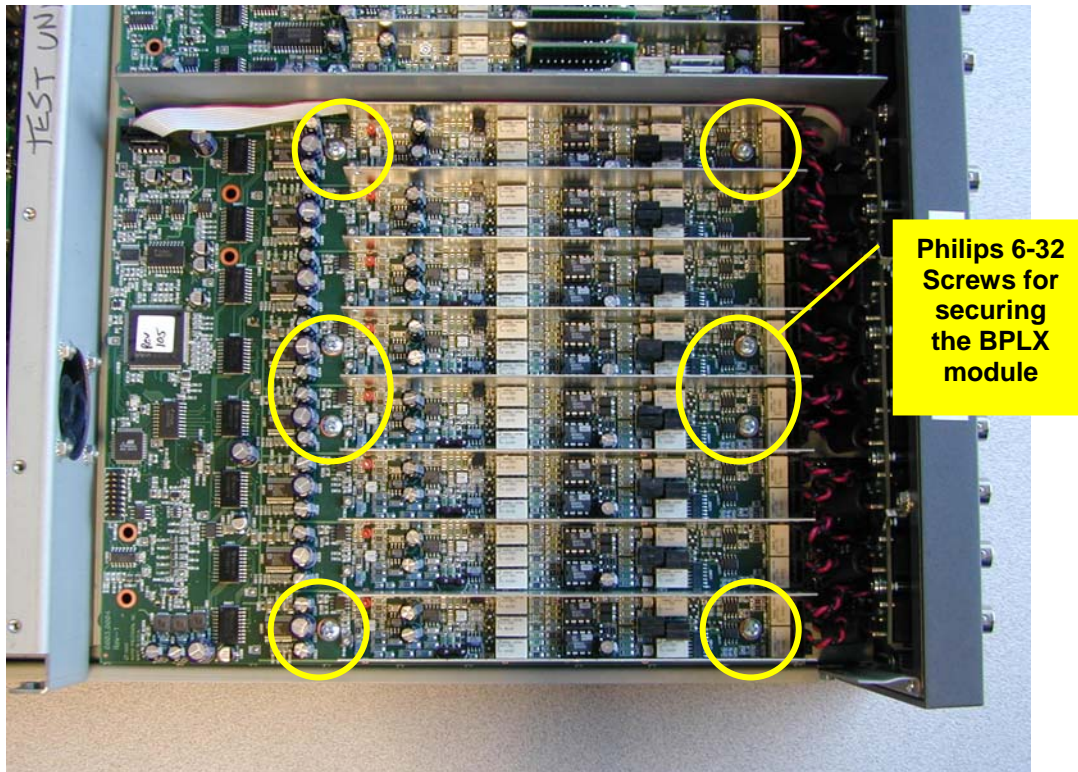

Figure 4 APX585 BPLX Module
16. Use a Philips # 2 Screw driver to remove the eight 6-32 Philips screws that secure the BPLX module to the APX-585 main chassis plate. Save the 6-32 Philips screws for re-installation of the new BPLX module. The 8 Philips screw locations are shown in Figure 4.
21. Install the eight 6-32 screws that secure the BPLX module to the Chassis Plate. See Figure 4 for the location of where to mount the previously removed 6-32 screws.